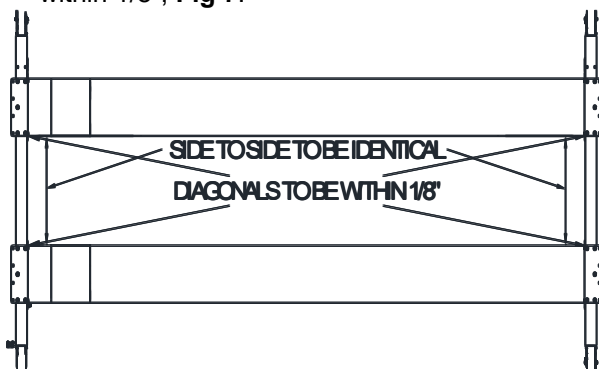

Fig 7 – Final Runway Positioning
- 8) Check the layout of the lift in the bay. (**This is the last opportunity to reposition the lift.**) Adjust the position of the runways so the distance from power side jack rail to idler side jack rail is the same at the front and the rear and the diagonal measurements from the front tip of one rail to rear tip of the opposite rail are within 1/8", **Fig 7**.